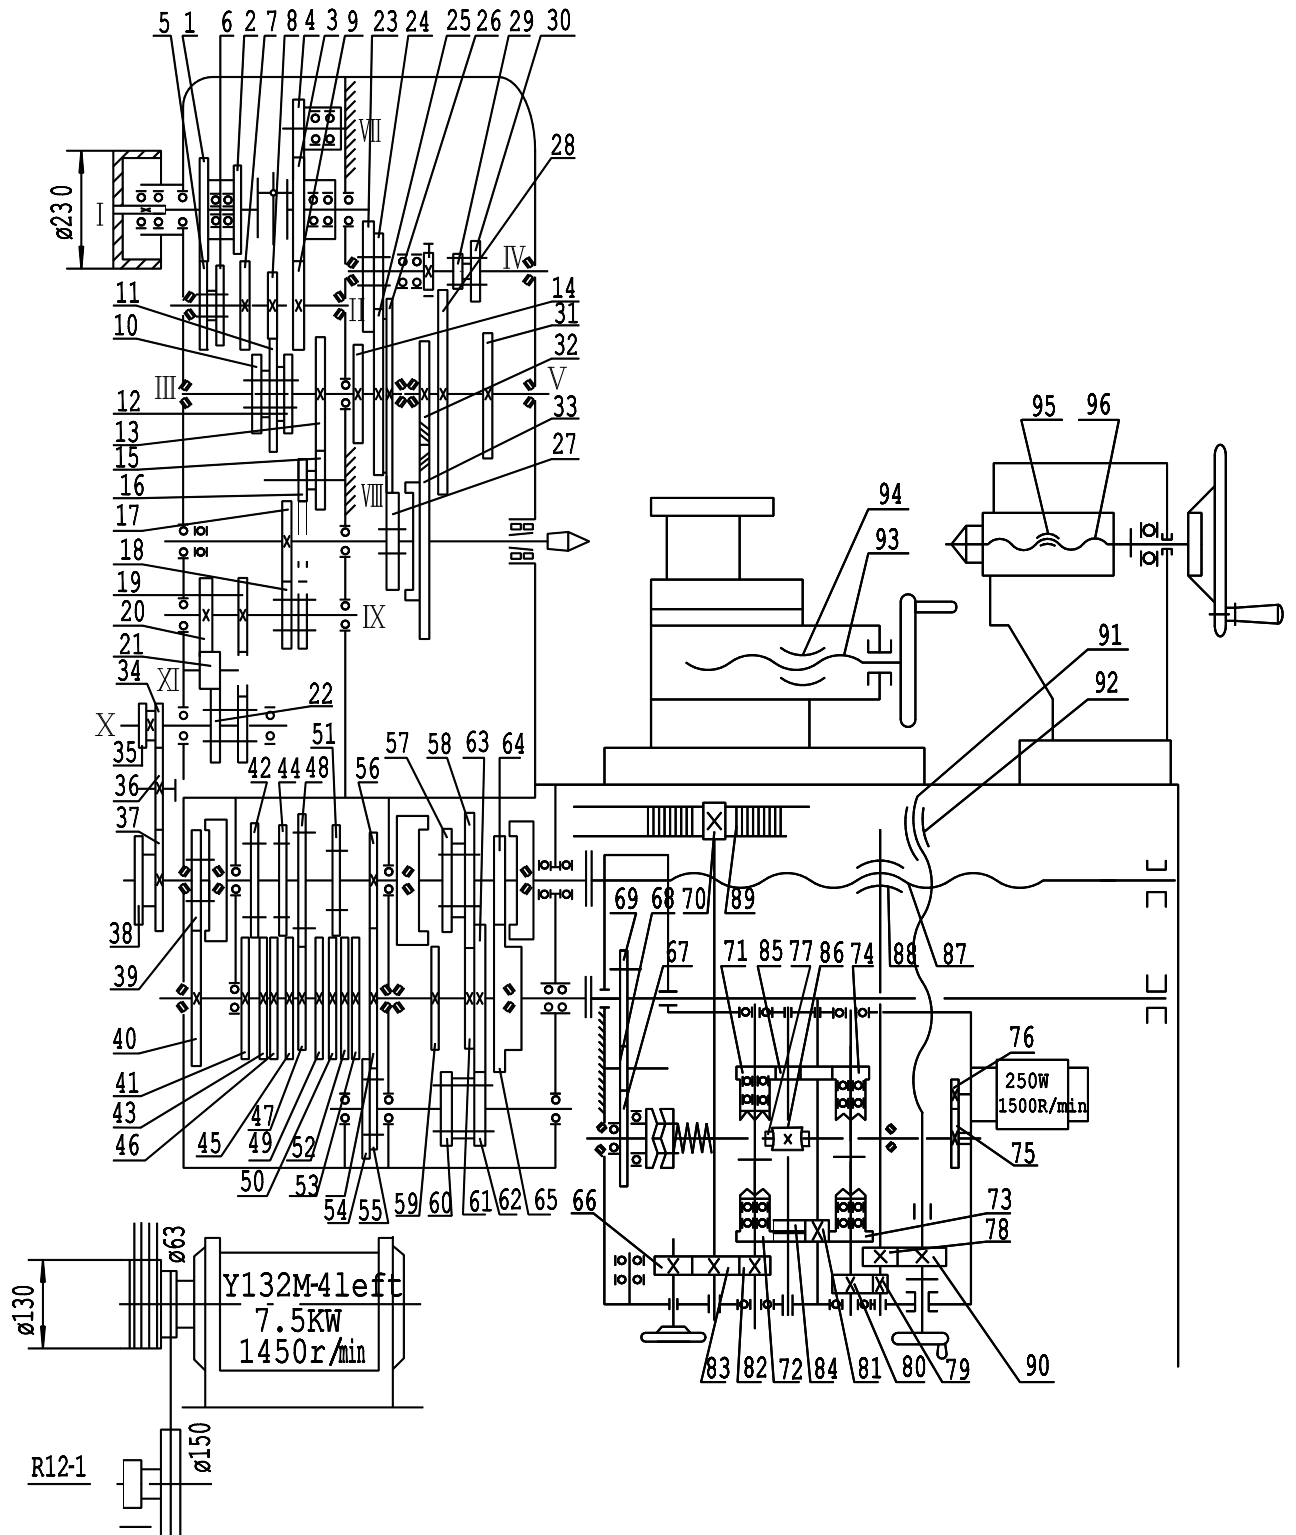
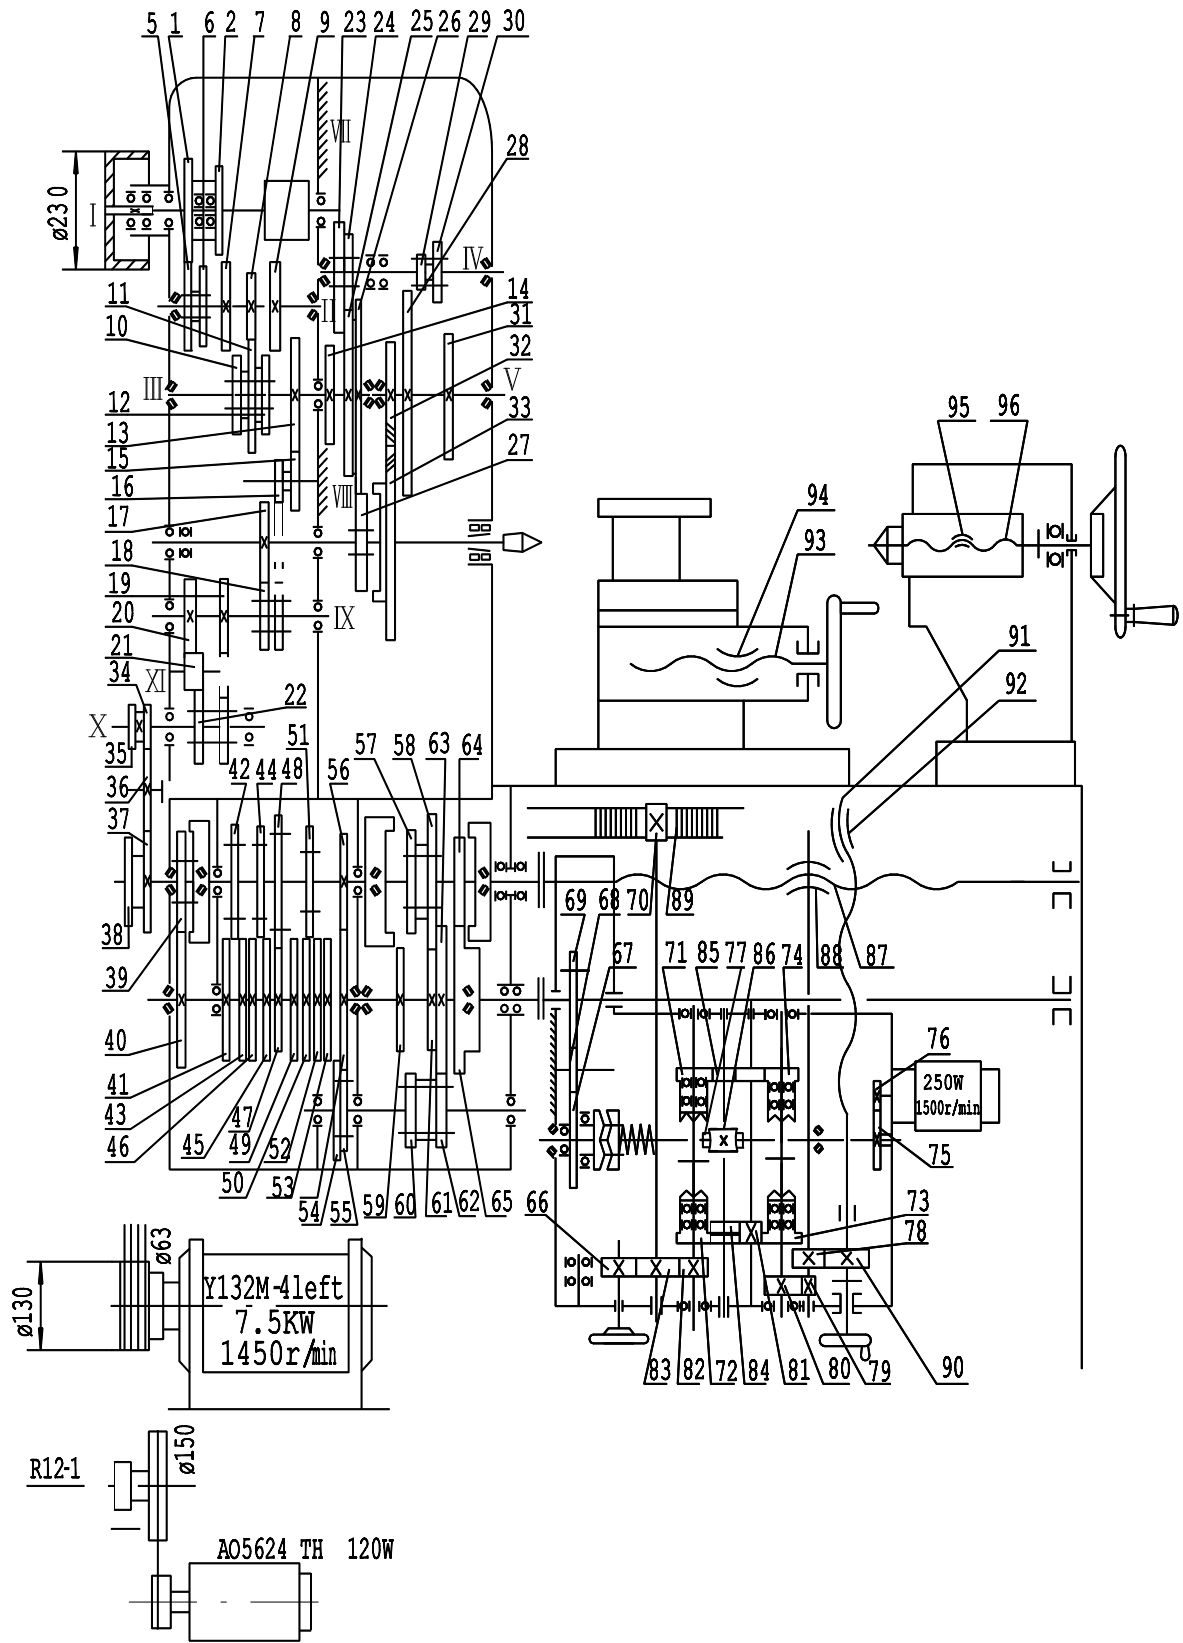

Fig. 5 Driving system drawing of the machine with hand-braking
Fig. 6 Driving system drawing of the machine with foot-pedal braking
The machine can be provided with hand-braking device, also with foot-pedal braking device. For the transmission system of the machine with hand-braking device, refer to Fig. 5 and for the transmission system, the machine with foot-braking device, refer to Fig. 6.
A workpiece is mounted in chuck or between two centers and driven by motor through driving mechanism (Fig. 5, Fig. 6 Driving system drawing of the machine).
- 1) Through feed box, feed rod and apron mechanism, by making the small gear 70 (Fig. 5, Fig. 6), engaged with the gears, rotating to move the saddle.
After shifting lever 3 (Fig. 7) on the front of the headstock to move gear 18 (Fig. 5) to make it engaged with the gear 16, longitudinal or cross feeds and pitches are changed as follows: